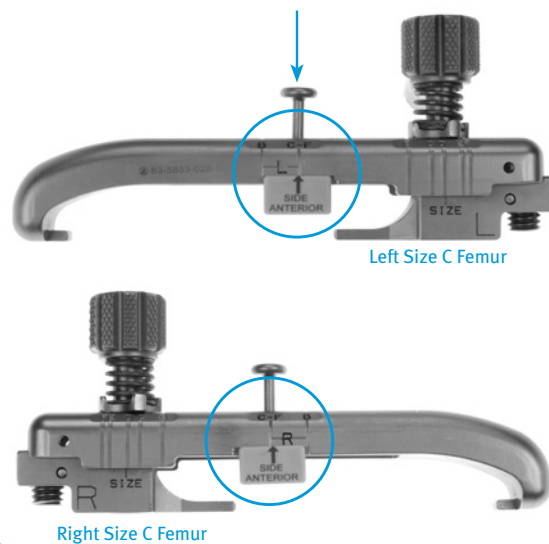

Fig. 150
- Adjust the orientation of the tension pad on the Condylar Trepine Guide by pressing the capture button so that the tension pad is disengaged and slide the capture button so that it is in the hole that corresponds to the size of the femoral component (Fig. 150).